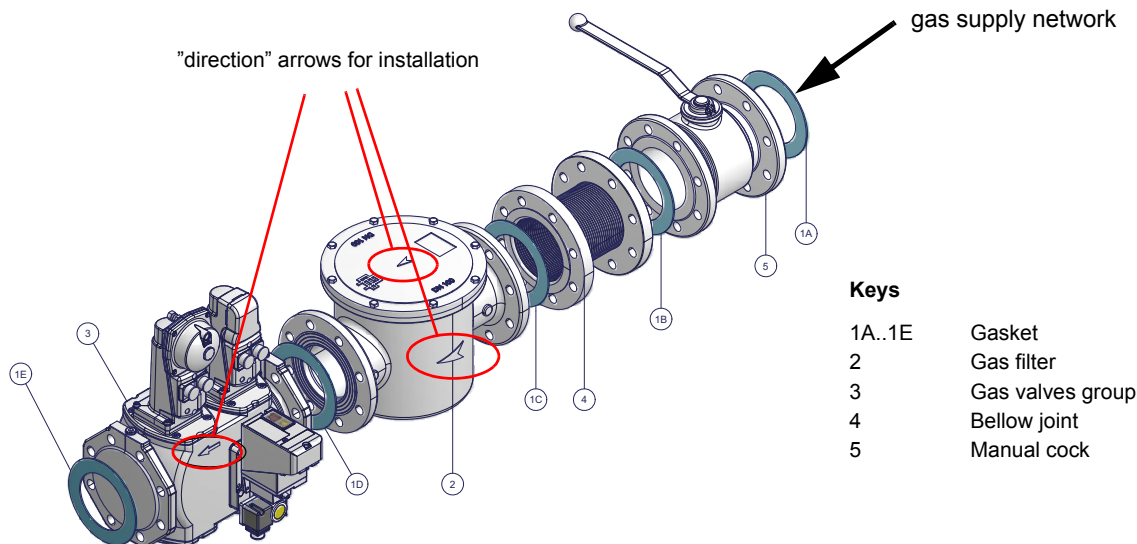

Fig. 3 - Example of gas train
1-b) in case of flanged joints: place a gasket (no. 1A..1E - Fig. 3) between the elements
**ATTENTION:** once the gas train is mounted according to the diagram on Fig. 3, the gas proving test must be performed, according to the procedure set by the laws in force.